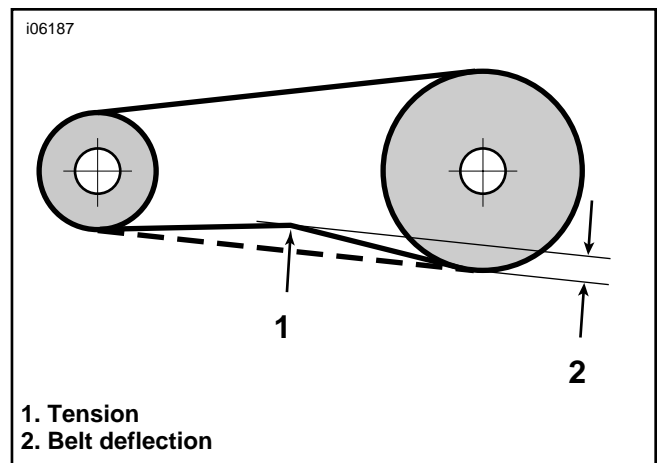

Figure 4. Rear Belt Deflection
10. See Figure 4. Grasp the emergency belt at the mid point of the lower run between your thumb and forefinger and lift the belt up to take up any slack in the belt.